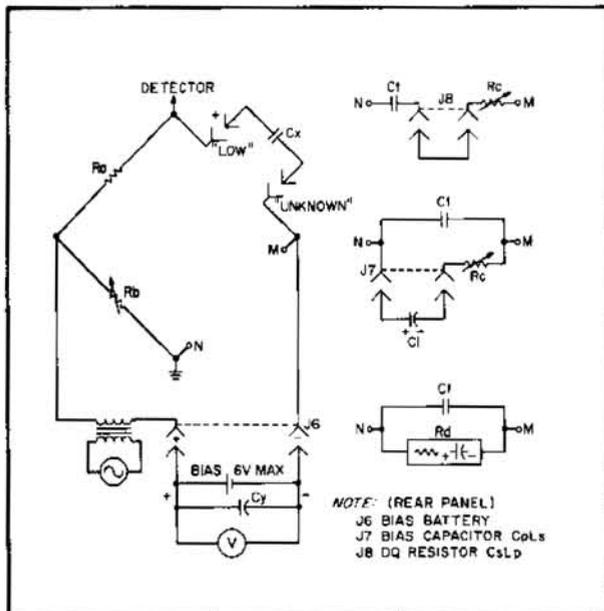

Figure 3-5. Dc Biased Capacitance Measurement
3-55. GENERAL. A dc bias voltage (6 vdc maximum) can be applied to capacitors such as electrolytic types during the C measurement. Figure 3-5 schematically illustrates the dc bias application. Operating procedure for dc-biased measurements is described below and pictorially shown in Figure 3-5. The following equipment will be required:
- a. Connect the measurement setup as shown in Figure 3-5. All instrument cabinets except 4260A must be isolated from power line ground.